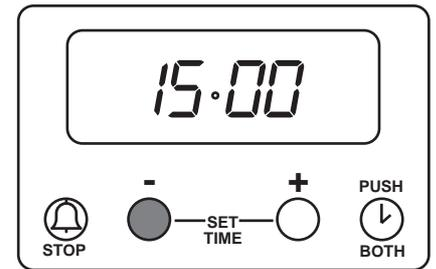

Fig. 9
To stop the sound press button (1). The display will stop flashing and show the time of day, e.g. 15.00. The cookpot symbol (⌚) will go out. See Fig. 9. If using the oven it will come on again once button (1) has been depressed. When cooking is complete remove food and turn OFF oven temperature control.